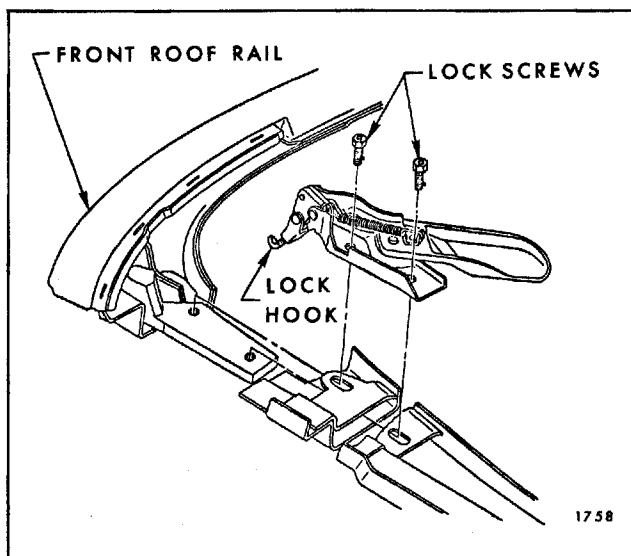

Fig. 6-87—Front Roof Rail Adjustment
2. Loosen side roof front rail lock attaching screws and adjust front roof rail fore or aft as required. Repeat on opposite side if necessary (Fig. 6-87).
2. With top in a half-open position, remove lock attaching screws; then remove lock assembly from front roof rail (Fig. 6-87).
2. To reduce or decrease locking action, turn lock hook counterclockwise (Fig. 6-87).